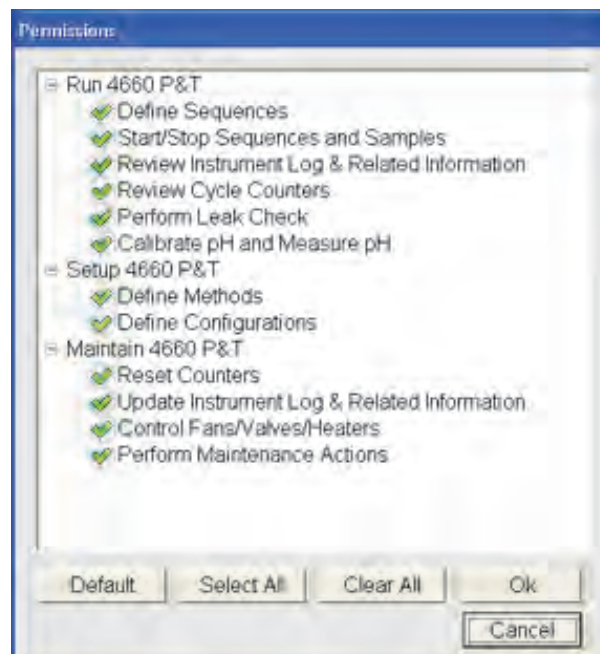

Figure 3.7. Default permission settings dialog box
- The system automatically uses default permissions to set up new users. Change default permissions by selecting the **Default Permissions** line and pressing **Permissions...** The Default permission settings dialog box appears (Figure 3.7).